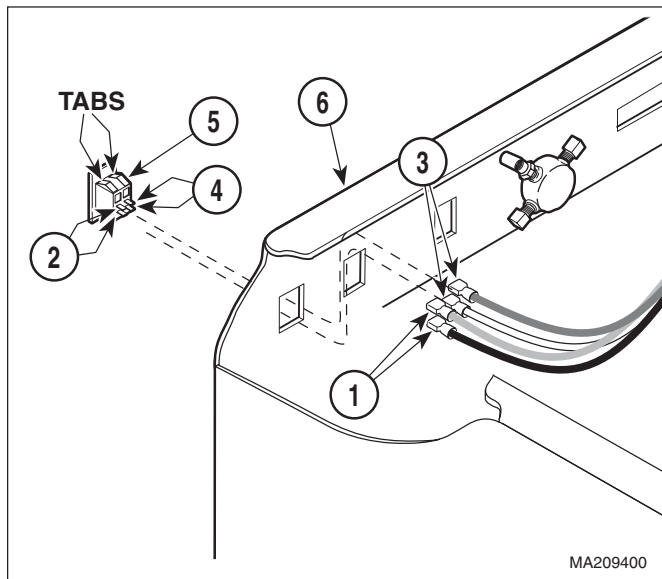

Figure 4-2. POWER ON / STANDBY Switch
- (1) Remove control box cover (Refer to para 4.1).
- (2) Tag and disconnect two wires (1, Figure 4-2) from terminals (2).
- (3) Tag and disconnect two wires (3) from terminals (4).
- (4) Press four tabs of POWER ON/STANDBY switch (5) inward simultaneously, and push POWER ON/STANDBY switch out of cabinet weldment (6).